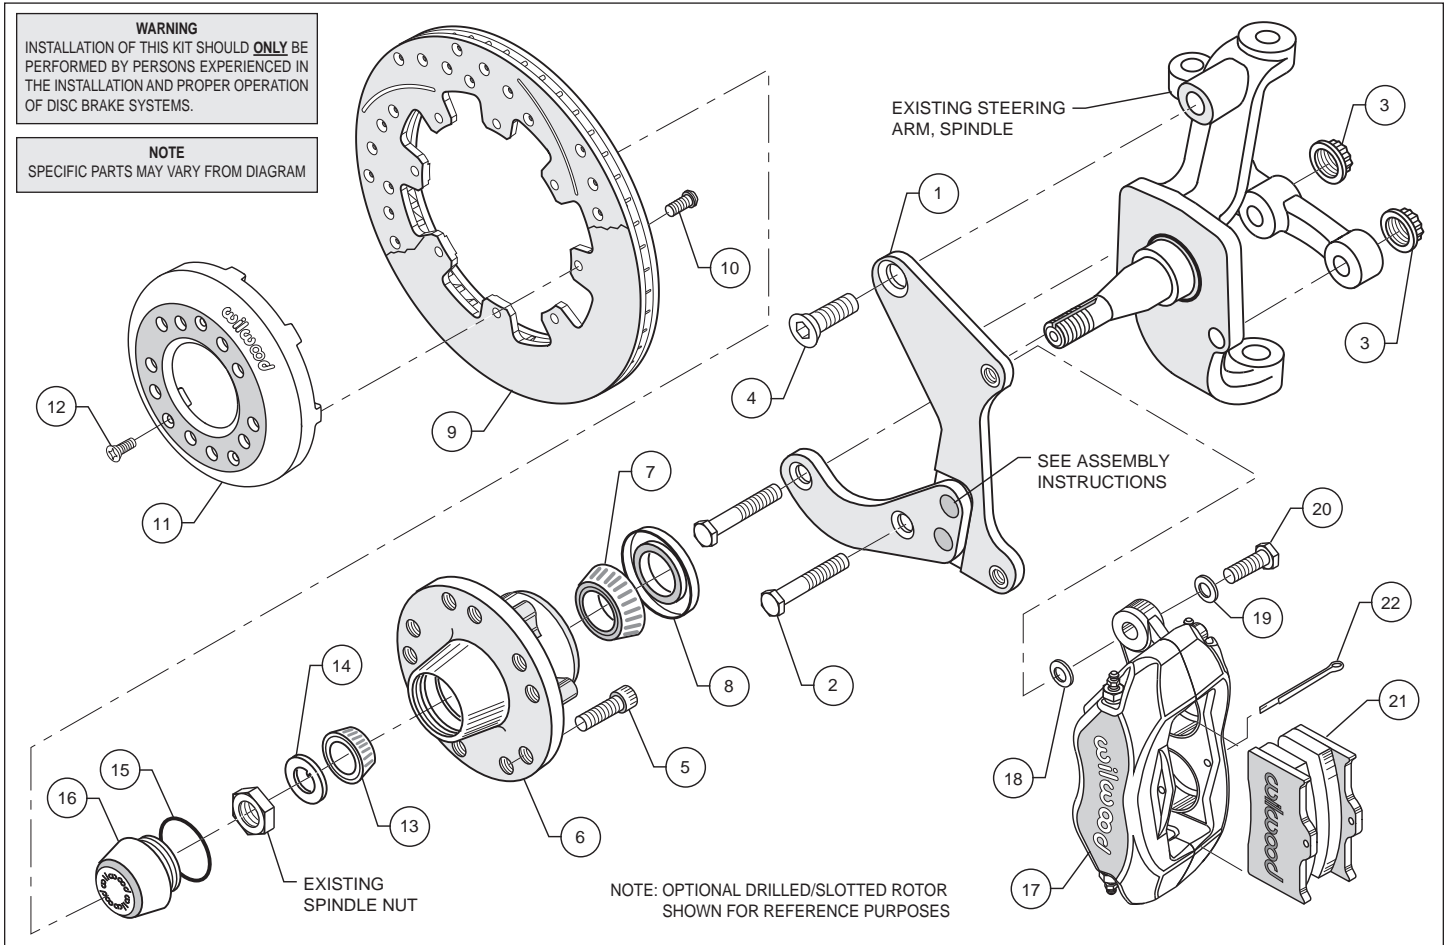

Figure 1. Typical Installation Configuration
- The spindle and caliper bracket (1) have been assembled at the factory for alignment purposes. Loosen the two bolts that secure the brackets together so that the bolts are hand tight only, this will enable the bracket assembly (1) to be adjusted to accommodate various spindle tolerances during assembly. Bolt the lower portion of the bracket assembly (1) to the backing plate face of the spindle using two bolts (2) and two lock nuts (3), hand tighten only. **NOTE:** Be sure the heads of the bracket assembly (1) insert nuts are facing outward toward the wheel. Install bolt (4) through caliper bracket (1), and into the steering arm. Torque two bolts (2) to 47 ft-lb. Apply red *Loctite*® 271 to the bolt threads (4) and torque to 140 ft-lb. Remove one of the bolts that secure the bracket assembly (1) to each other. Apply red *Loctite*® 271 to the bolt threads and reinsert into the bracket assembly. Repeat this procedure for the second bolt. Torque these two bolts to 40 ft-lb.
- Install five new wheel studs (5) into the hub (6). Torque to 77 ft-lb. **NOTE:** There are two five lug patterns in the hub (5 x 4.50 and 5 x 4.75). Make sure of the correct hole pattern for the correct wheel application before installing studs into hub.
- Pack the large inner bearing cone (7) with high temperature disc brake bearing grease (available from your local auto parts store) and install into the backside of the hub (6).
- Install the grease seal (8) by pressing into the backside of the hub (6).
- Pack the small outer bearing cone (13) with high temperature disc brake bearing grease and install into the front side of the hub (6). Lightly coat the spindle bearing surfaces with bearing grease. Slide the hub assembly (5, 6, 7, 8 and 13) onto the spindle. Secure using spindle washer (14), existing adjusting nut and nut locking device. Adjust wheel bearing pre-load per Original Equipment Manufacturer (OEM) specifications.
- Install the o-ring (15) and the dust cap (16) into the hub (6). Friction created by the o-ring (15) on the dust cap (16) keeps it from unscrewing. The O.D. of the existing spindle washer may be larger than the I.D. of the dust cap (16) which may allow the washer to contact the dust cap (16). Use the spindle washer (14) supplied with the kit instead of the stock washer.
- Orient the rotor (9) and the hat (11) as shown in Figure 1. Attach the rotor to the hat using bolts (10). Using an alternating sequence, apply red *Loctite*® 271 to the threads, and torque to 25 ft-lb.
- Slide the rotor/hat assembly (9, 10 and 11) over the wheel studs (5) in the hub (6) taking care to align the small countersunk holes in the hat (11) with the small threaded holes in the hub (6) Install three flat head socket head screws (12) through the small holes in the hat (11) and torque to 100 in-lb.